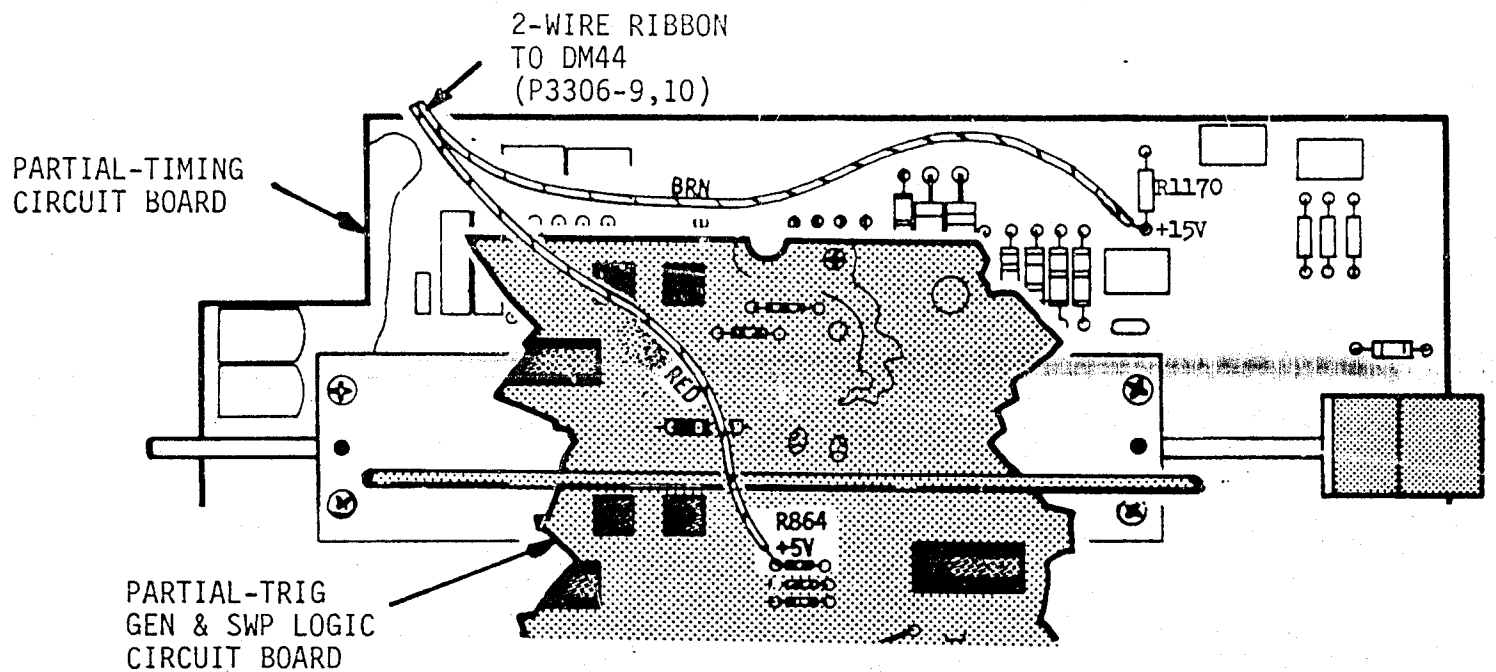

Fig. 6. Partial - Timing and Trig Gen & Swp Logic Circuit Boards.
- () 3. As shown in Fig. 6, solder the red wire in the two-wire ribbon cable from the kit to the front end (+5V) of R864 on the Trigger Generator and Sweep Logic circuit board.
- () 4. As shown in Fig. 6, solder the brown wire in the same two-wire ribbon cable to the bottom end (+15V) of R1170 on the Timing circuit board.